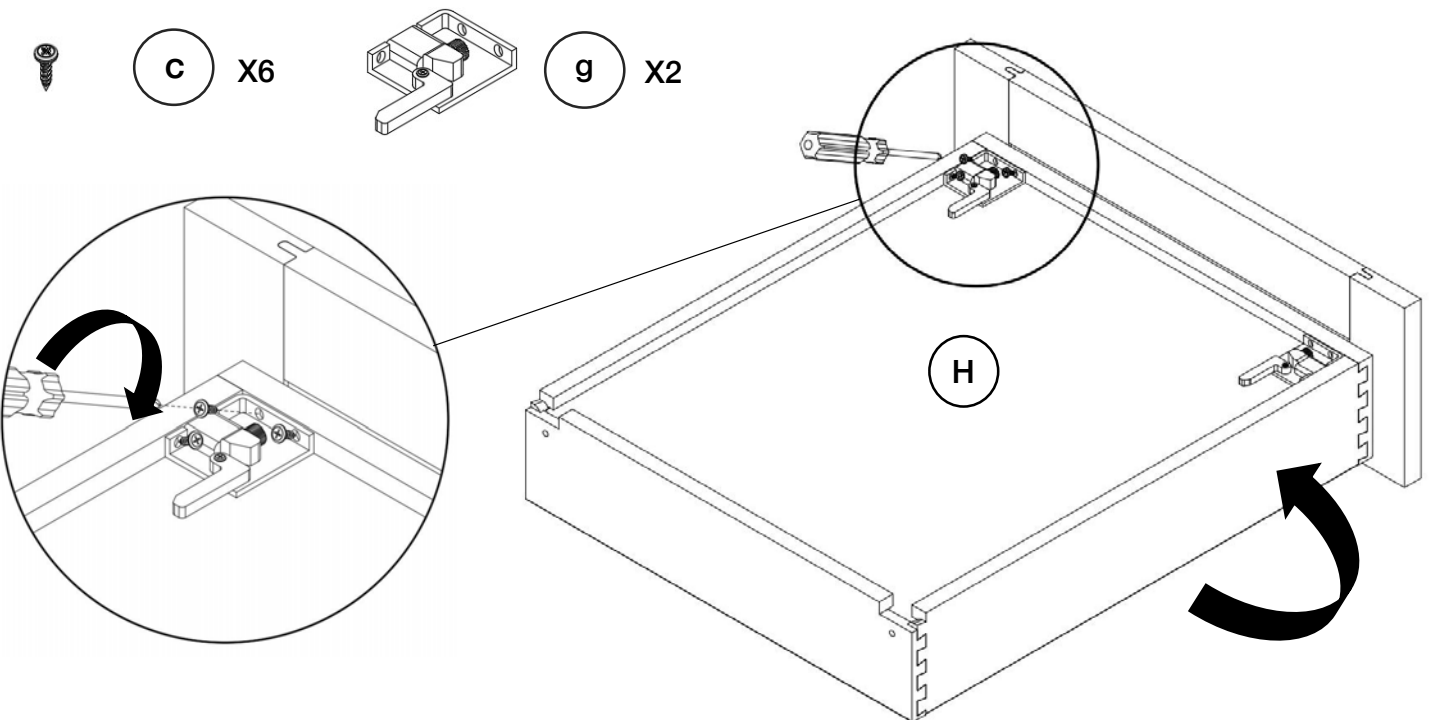

Figure 10
Attach the Drawer Clips (g) using screws (c) onto the bottom of the drawer. (H) (Figure 10)